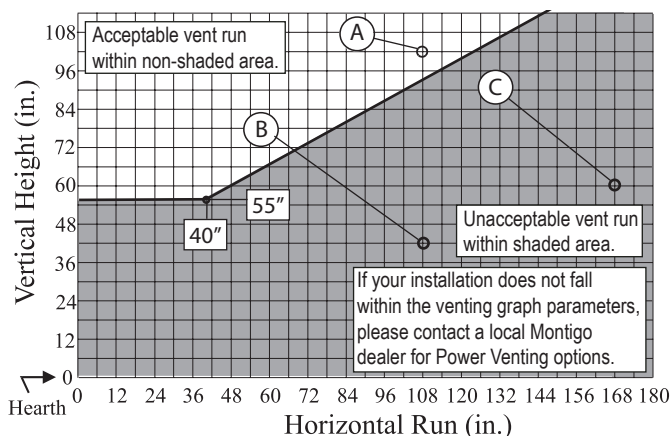

Figure 15. Rear Vent Venting Graph for wall mounted terminations.
- Venting runs must fall within the limits set by the venting graphs, see Figure 15.
Measure the vertical height from the fireplace hearth to the centre of the termination and the horizontal run from the fireplace flue collar to the wall flange of the termination. Plot on the Venting Graph Figure 15 with an 'X'.
Figure 15a. Rear Vented, wall mounted Multi-elbow termination installation. Installation for L52DF* must have a minimum vertical rise of 52". The vent run must comply with the Venting Graph for Rear vent, wall mounted terminations, Figure 15.
To install the RHS8, frame an opening in combustible construction, Figure 15 below. Slide the Heat shield in place over the vent pipe which attaches to the fireplace. After the fireplace and vent pipe has been installed, clearances should match the dimensions in Figure 15.